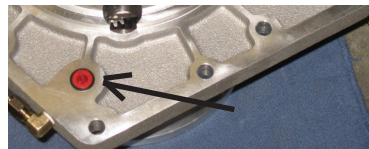

Figure 7: Red Plug
1. Remove the red plug and O-ring, from the RubiCrawler as seen in Figure 7. Remove the rag from the transmission and discard the red plug.